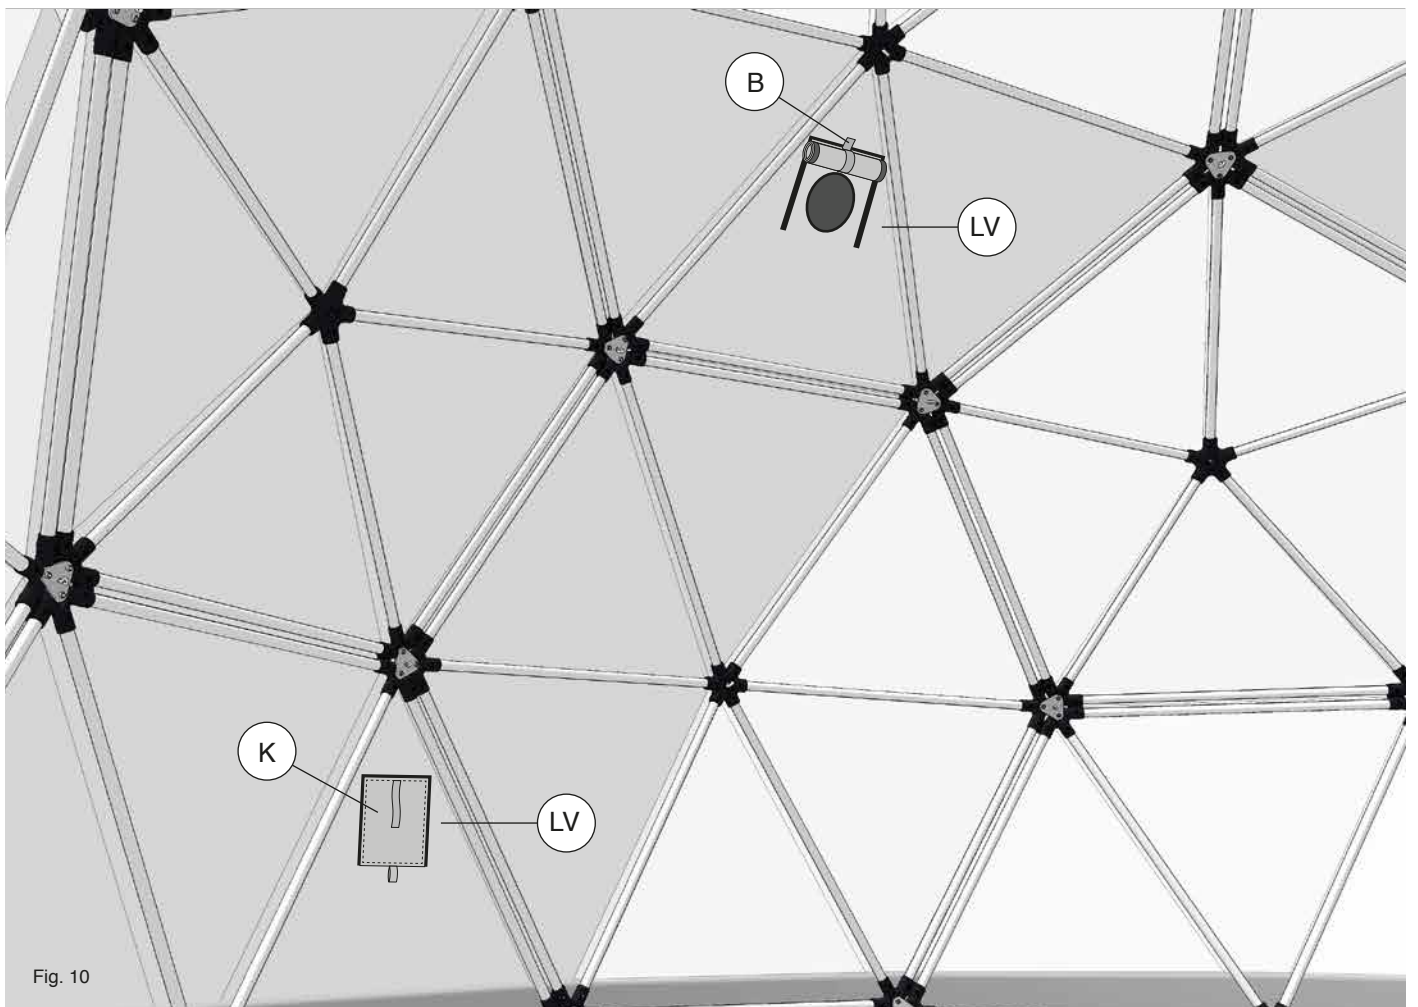

Fig. 10
The air vents (LV) are located and can be opened inside the tent. See fig. 10.
Anchoring equipment (F) from Tentipi Norge AS is highly recommended. See Figure 10